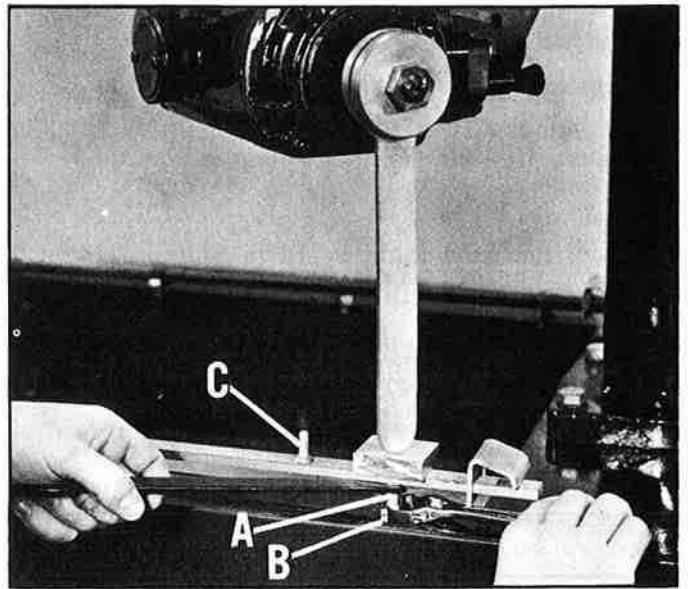

Fig. 15
8. When the correct setting is obtained, hold the leveling screw (A) with a wrench, to prevent it from turning and tighten the locknut (B) Fig. 15. Then replace the flat head screw (C).